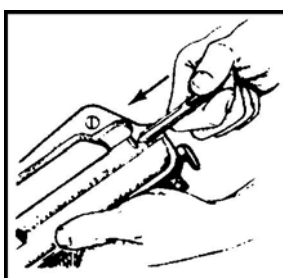

Figure 34. Placing the charging handle and the bolt carrier.
- k. Push the charging handle and bolt carrier together in the upper receiver (Figure 34).